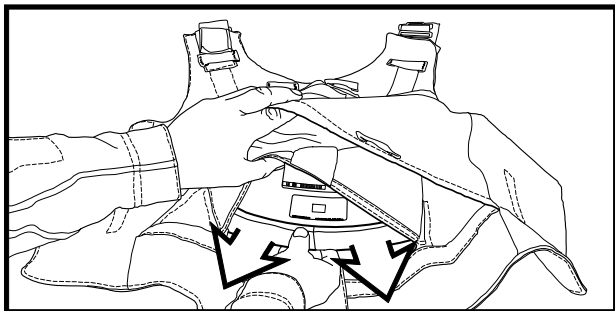

Figure 11. Removing ESAPI Plates.
- Remove SAPI/ESAPI plates from the front and back carriers, if installed (Figure 11).